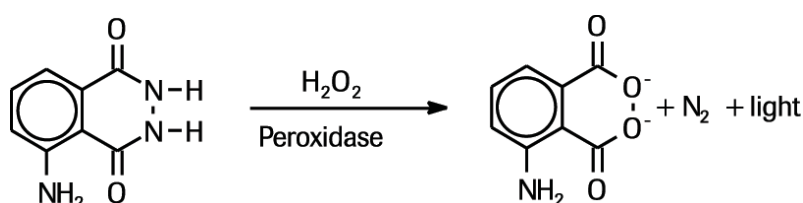

Fig. 1: Reaction mechanism.
- Strong enhancement of the light emission is produced by 4-iodophenol. This acts as a radical transmitter between the formed oxygen radical and luminol, see Figure 1.